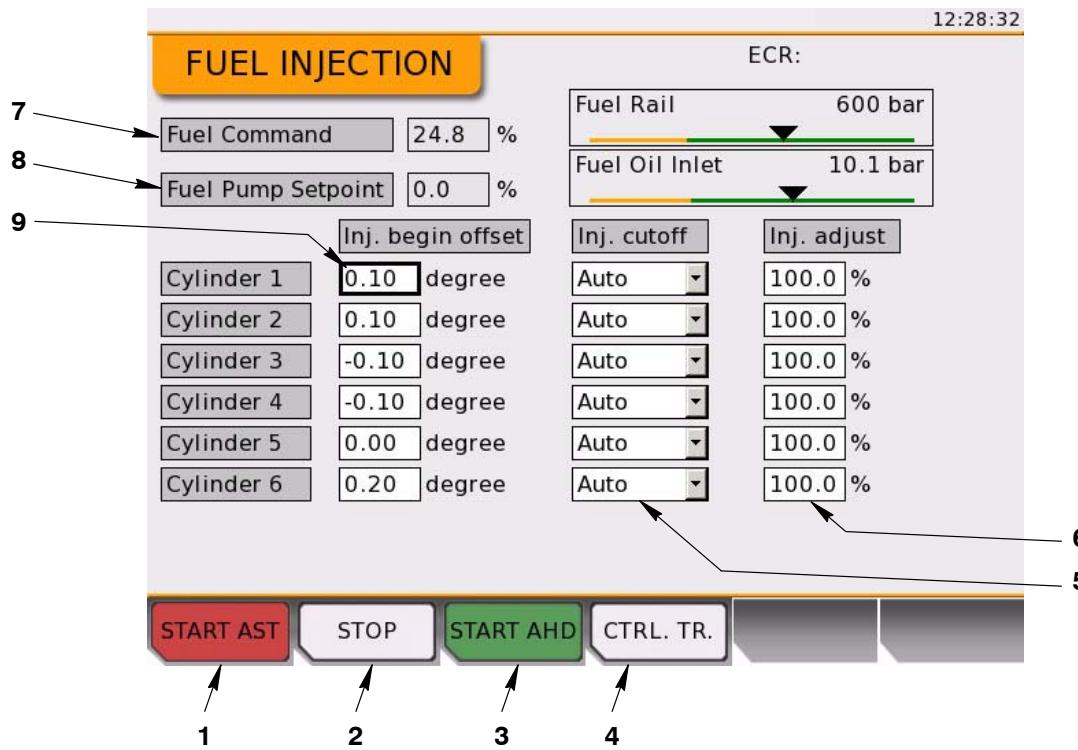

Fig. 9: Fuel Injection Page
- 1) Move the cursor to the related text field (6, Fig. 9), then push the rotary button to enter the edit mode.